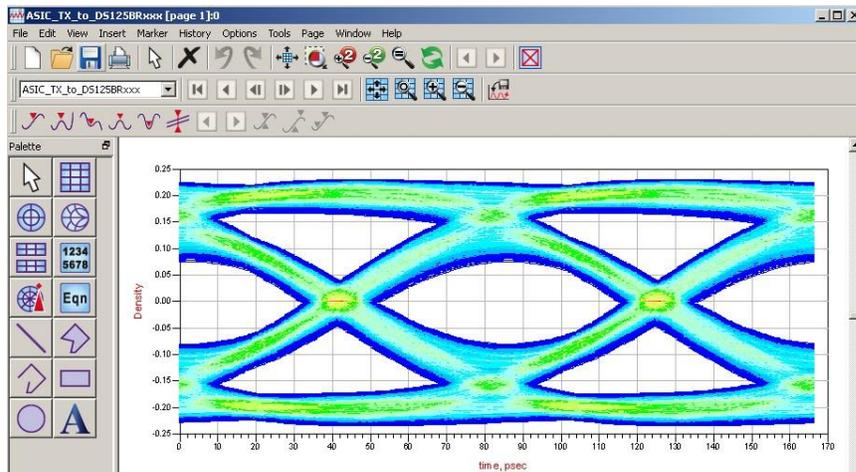

Figure 4: Eye plot for ASIC TX to DS125BR401 RX link
8. The eye plot will appear in the plot window, as shown in Figure 4. Note that this is a plot of the eye as it appears after the DS125BR401’s equalization, but before the TX de-emphasis and VOD is applied.